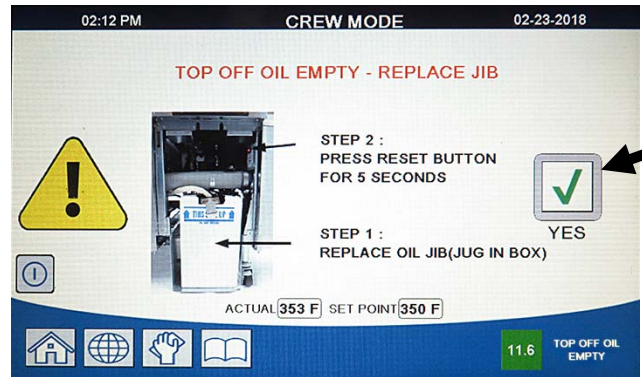
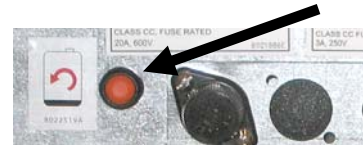

Figure 2
Figure 7
When the oil reservoir level is low and displays TOP OFF OIL EMPTY - REPLACE JIB, (see Figure 2). Once the reservoir is refilled and/or replaced, press and hold the orange reset button next to the oil reservoir (see Figure 7 on the following page). Press the check button to temporarily clear the screen. The message in the lower corner continues to be displayed until the orange reset button is pressed. If using solid shortening, see Appendix B for instructions.
- Press the JIB reset switch to clear the Top Off Empty display on the FQ4000 controller off (see Figure 7).